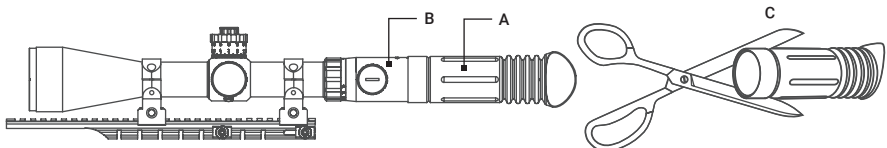

FIGURE 2-8. LIGHT SUPPRESSOR FOR A DAY SCOPE
The Light Suppressor for a Day Scope (A, Figure 2-8) slides over the eyepiece of your daytime scope (B). The suppressor can be used with scopes that have 40...43 mm eyepiece diameter and 100...120 mm eye relief.